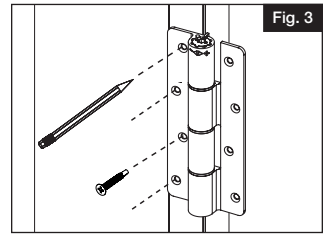

Fig. 3
- b.) Mark pilot holes through screw holes then pre-drill using 3/32" bit (Fig. 3).
- c.) Secure hinges to gate with 1" screws (Fig. 3).